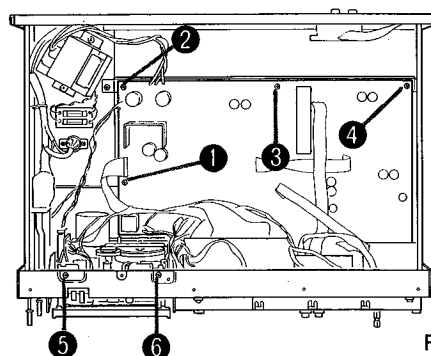
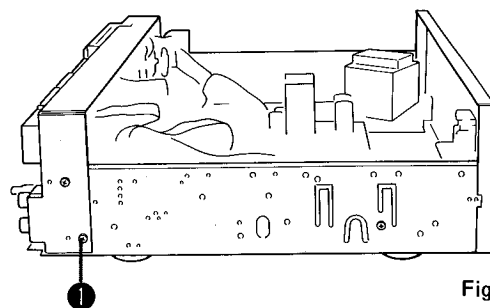
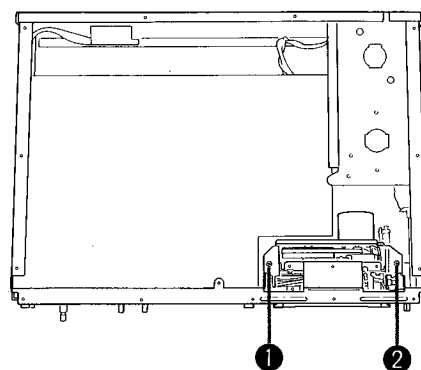

Fig. 5
Fig. 6
Fig. 7
5. Remove the screws 1 to 4 in Fig. 5 and the screw 1 in Fig. 6 and then pull out main P.C. board backward.
3. Remove the screws 5 and 6 in Fig. 5 and 1 and 2 in Fig. 7 and then remove the cassette tape recorder mechanical assembly backward.
\* When mounting, tighten screws 1 and 2 in Fig. 7 first and then 5 and 6 in Fig. 5.